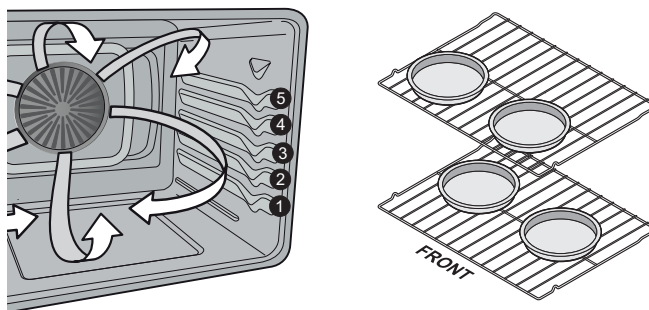

Figure 6: Convection baking on multiple levels/racks
- When using convection bake for cakes using two oven racks, place racks in positions 2 and 4 and position bakeware as shown in Figure 6.